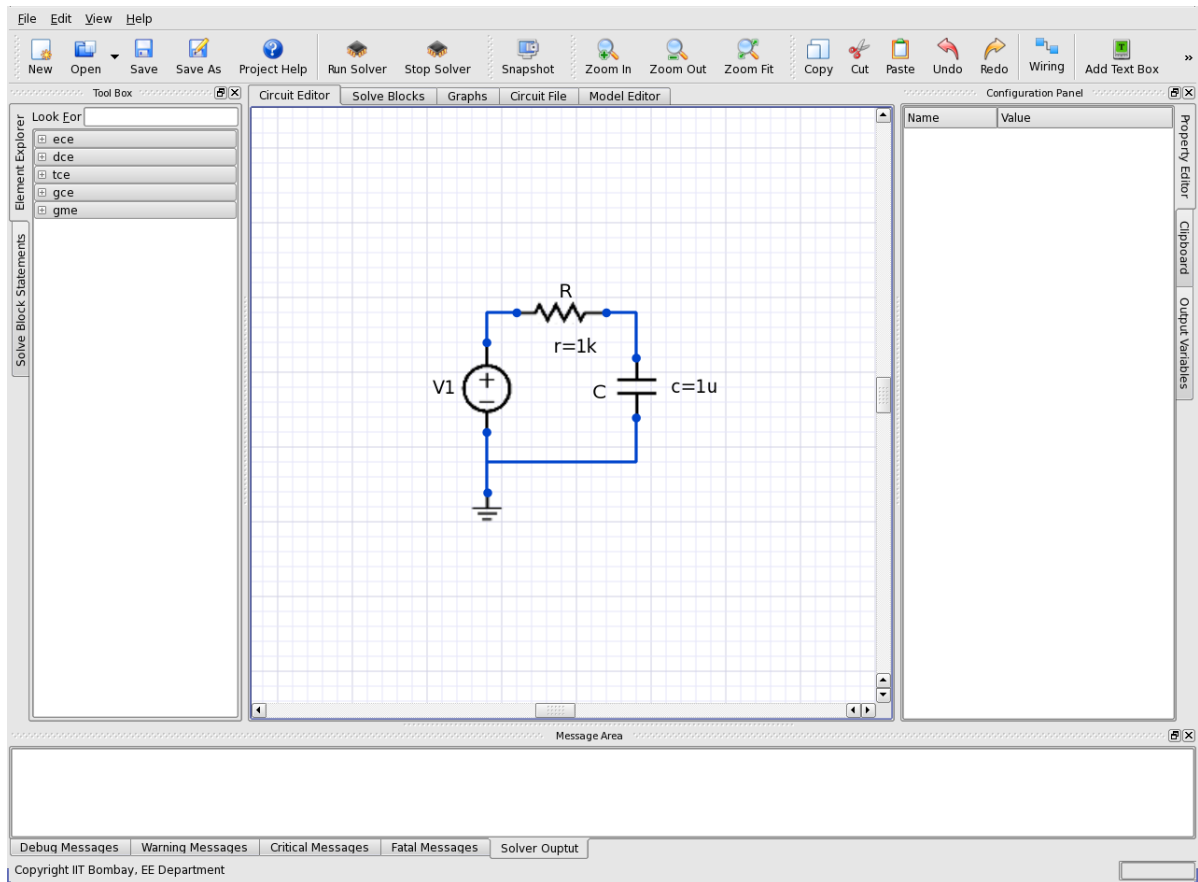

Figure 2: Snapshot of a project.
- (i) Click¹ on the “open project” menu. A new window will appear, showing the directory structure and files in the current directory, Select the directory² `electronics_gnr1`. The SEQUEL projects available in this directory (each with extension `.sqproj`) will appear in a separate window. Select the project `rc1.sqproj` and open it. Alternatively, double-click on `rc1.sqproj`, and it will be opened, as shown in Fig. 2.